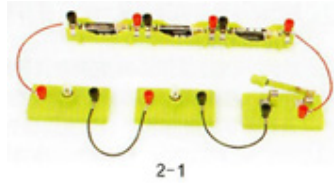

Fig. 2-1
1. Form a circuit as shown in Figure 2-1, observe and explore the characteristics of the circuit (outside the power supply, the current always flows from the positive pole of the power supply to the negative pole through the circuit).
2. Then, according to Figure 2-1, Figure 2-3, change the connection method of the switch, study the switching function of the series circuit, and explore
The circuit diagram corresponding to Figure 1-2 The circuit diagram corresponding to Figure 2-1 The circuit diagram corresponding to Figure 2-4